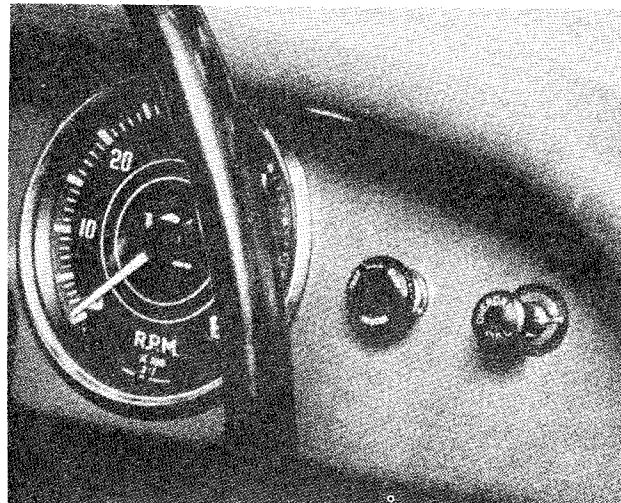

Fig. 37 Showing the position of the Overdrive Control.
R.H. Drive Cars. Two holes are pierced in the fascia panel on the R.H. side of the speedometer and covered with fabric. The fabric should be pierced through the extreme R.H. hole and the operating switch fitted (see Fig. 37).